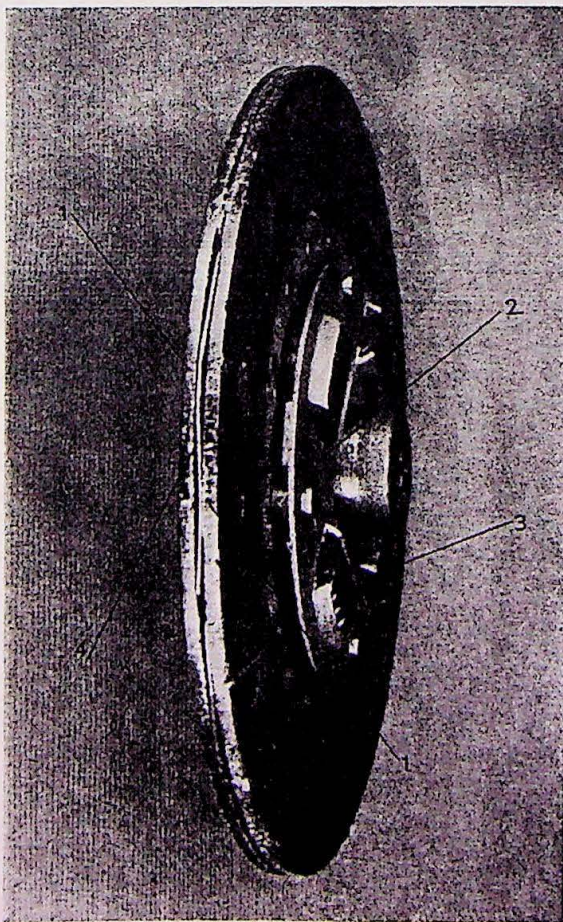

Fig. 5.
3. Rivet the new facings (preferably in a rivet press). Use a riveting punch designed for tubular rivets. Insert rivets from facing side using every second hole of facing. After riveting the facings, the distance between them should be fixed by the set of the driven plate tongues, fig. 5. This is very important for obtaining a smooth engagement.